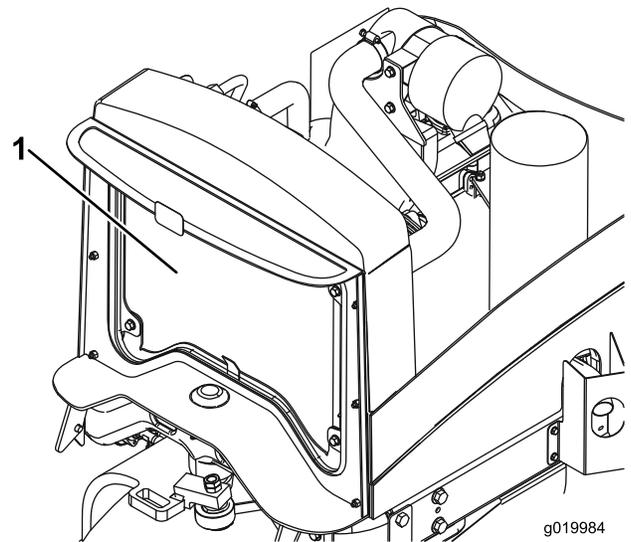

Figure 52
2. Clean both sides of the radiator/oil cooler area thoroughly with water or compressed air (Figure 52).